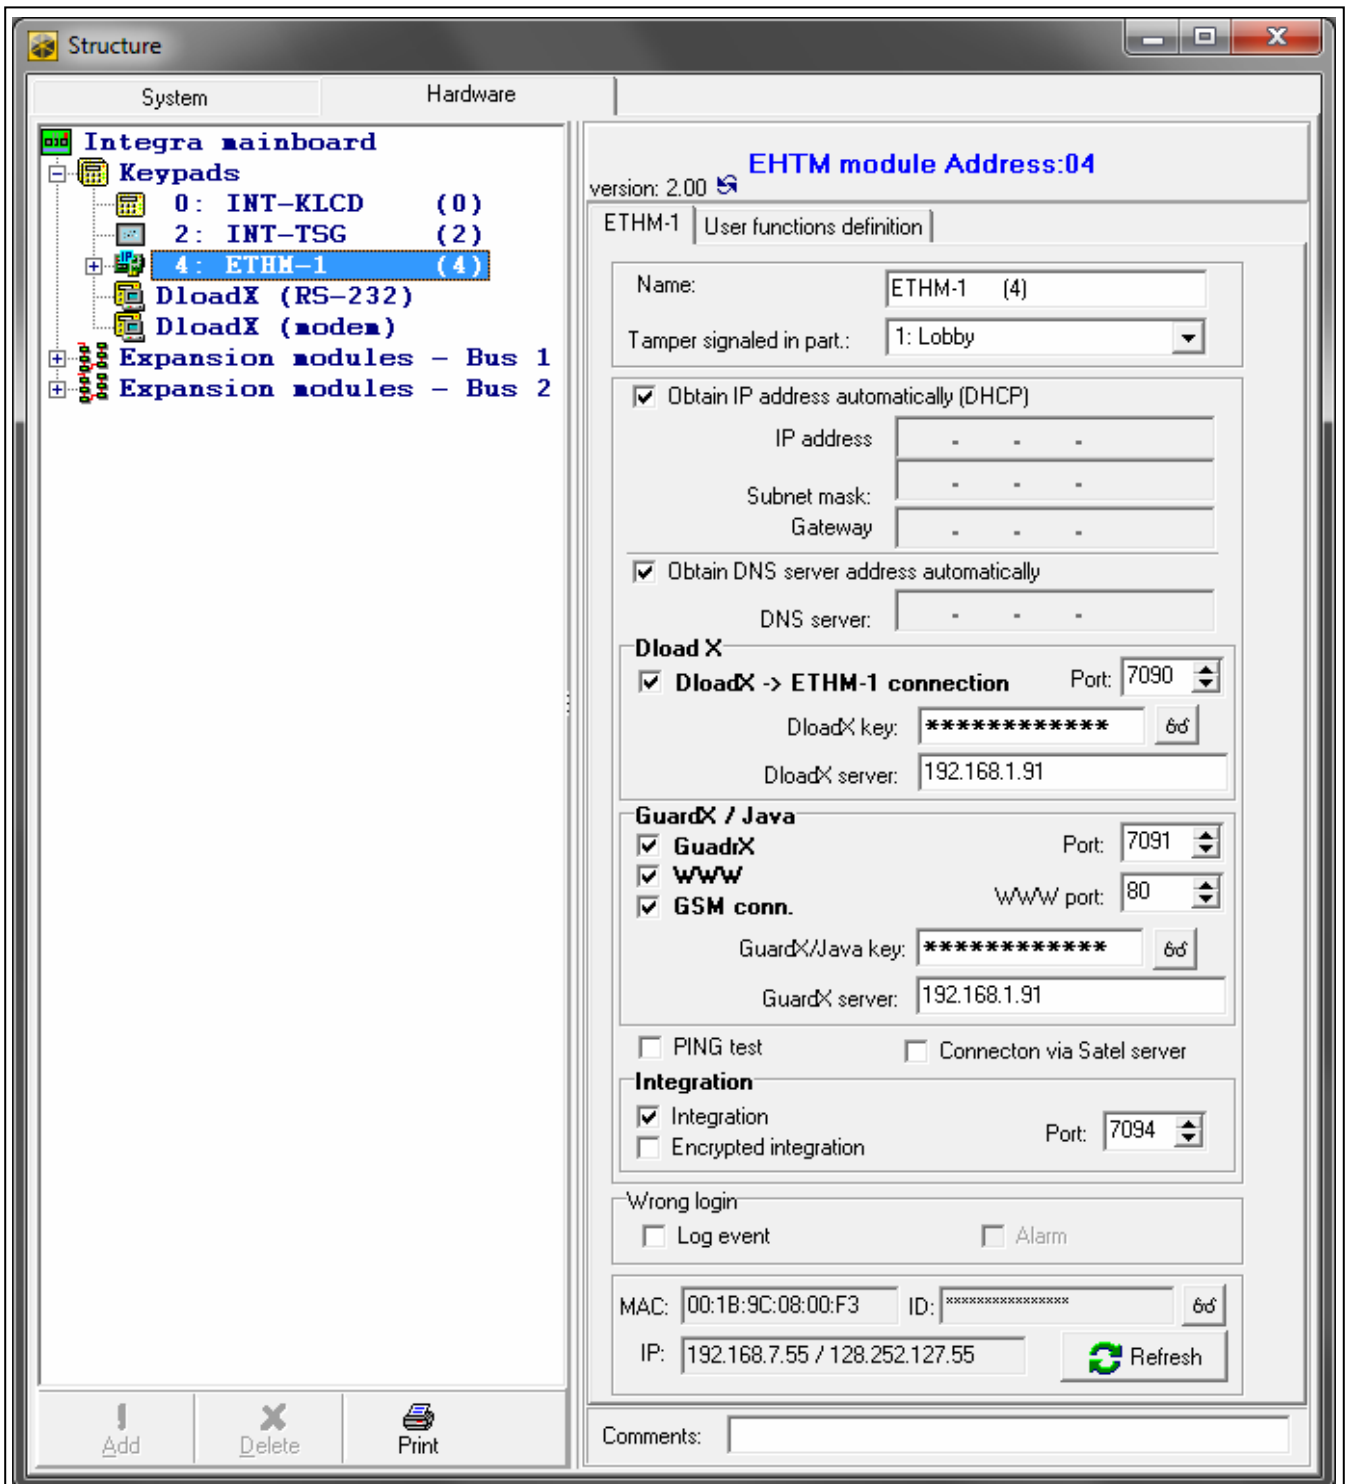

Fig. 5. DLOADX program: parameters and options of ETHM-1 Plus module connected to INTEGRA / INTEGRA Plus control panel.
- DLOADX program: →"Structure" window →"Hardware" tab →"Keypads" branch →[*module name*] → "ETHM-1" tab (Fig. 5).
- *in the DLOADX program: below the module parameters and options (Fig. 5).*